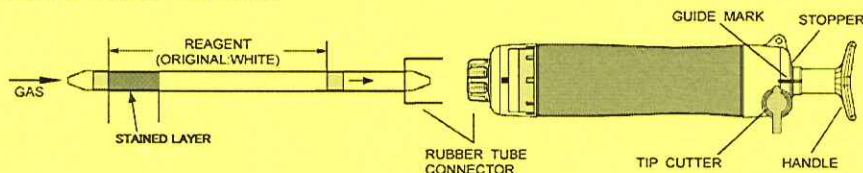

Fig.1
- ② Insert the detector tube into aspirating pump securely as shown in Fig.1.
- ③ Put the top end (filled with the reagent) of the detector tube near the object to be examined such as burnt clothes, cloth, a carpet, and soil & sand, etc. as much as possible.
- ④ Align the guide marks on the shaft and stopper of the aspirating pump.
- ⑤ Pull the pump handle at full stroke locked position and wait for 30 seconds or until the completion of sampling is confirmed with the flow indicator of the pump (See descriptions about the flow indicator in the instruction manual of the pump). Here, gas near the object to be examined is sampled into the detector tube.
- ⑥ After completion of sampling, remove the detector tube from the pump and heat the stained layer of the detector tube from the outside by match, lighter, etc. for 2 ~ 3 seconds, and wipe the soot off from the detector tube. Then, examine the stained layer length and discolouration.
- NOTE (1) IT MAY BE POSSIBLE TO CHANGE THE DISCOLOURATION TO BLACK IF THE HEATING WAS STRONG, AND NOT BE POSSIBLE TO DISCRIMINATE GASOLINE AND KEROSENE.
- (2) AFTER THE MEASUREMENT, CLEAN THE PUMP INSIDE BY PULLING-PUSHING OF HANDLE SEVERAL TIMES, AND RESIDUAL GASOLINE AND/OR KEROSENE WILL BE EXHAUSTED FROM THE PUMP INSIDE.